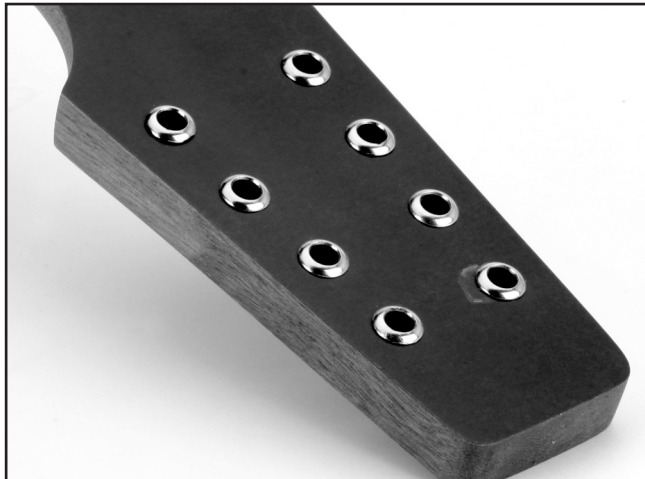

Figure 16. Peghead bushings.
1. Place the eight metal bushings in the pegholes in the front of the headstock as shown in **Figure 16**.